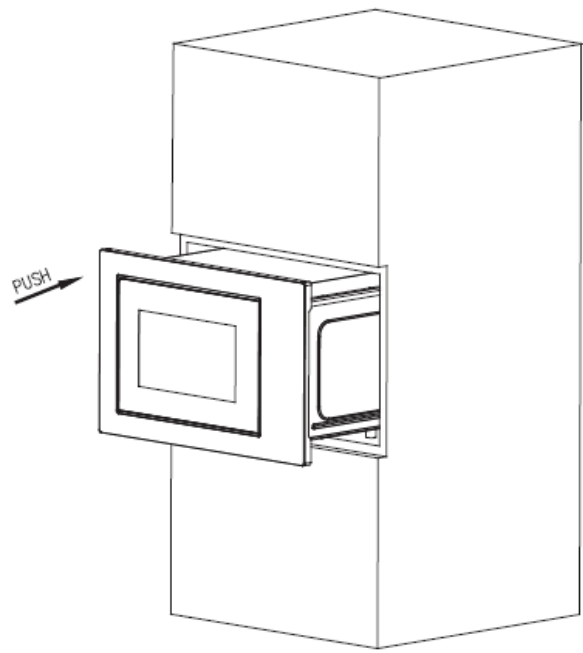

Fig.1
**1- Place the microwave oven into the built-in cabinet and slide it forward until it stops. (Fig. 1)**